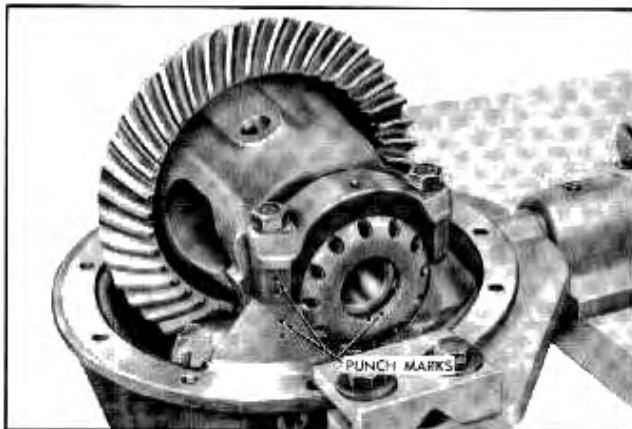

Fig. 4-25 Bearing Cap and Adjusting Nut Marked for Side Location
1. Mark bearing caps and adjusting nuts by some suitable method such as punch marks to distinguish right from left so they can be replaced on correct sides (Fig. 4-25).
1. If not previously done, mark right and left bearing caps and adjusting nuts (Fig. 4-25); remove adjusting nut locks.